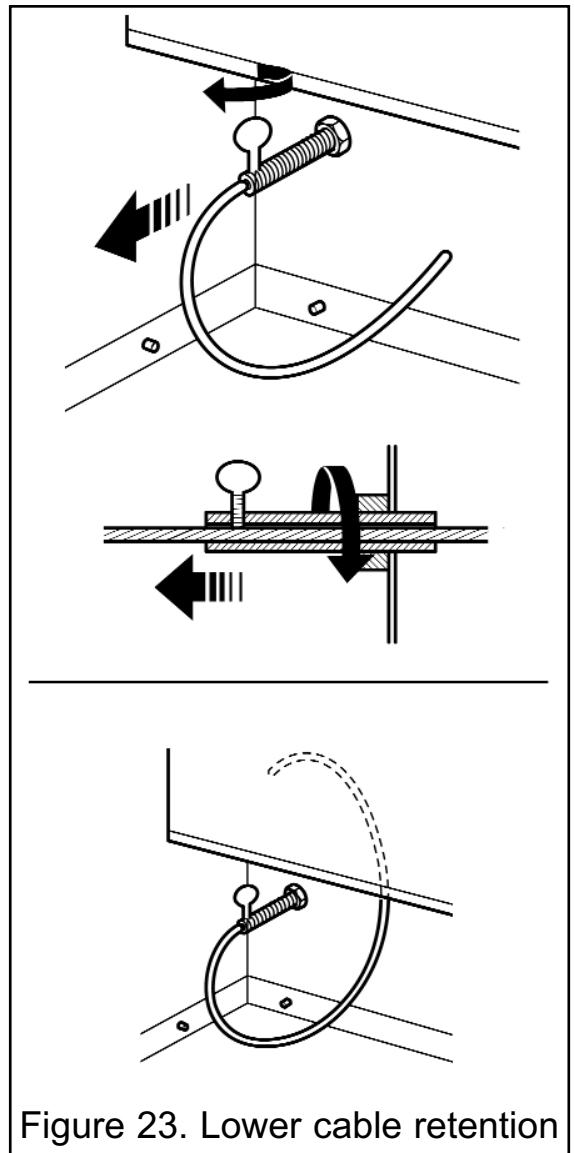

Figure 23. Lower cable retention
**11.** Pull each cable taut. Push the cable retainers hard up against the back panel. The end of the cable adjuster will pass into the hole. Tighten the screws in the retainers so that they clamp the cables in position. Apply tension to the cables by turning the hexagonal adjusters by hand (See figure 23).
**14.** Feed the free length of the cables into the gap between the inner and outer back panels so that they are available to allow easy removal and refitting of the appliance during subsequent service calls. **Do not cut off the free lengths of cable** (See figure 23).